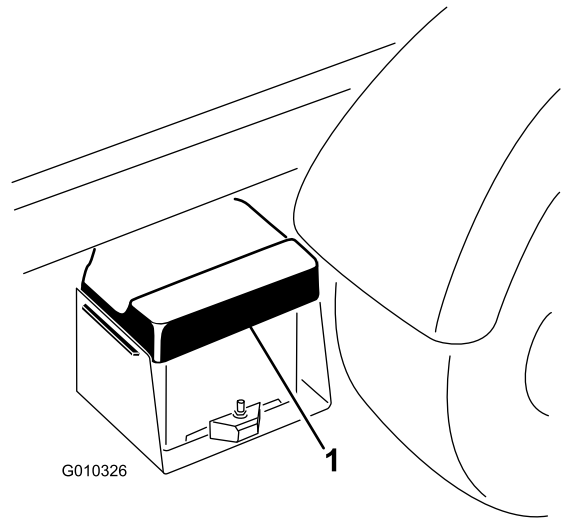

Figure 3
- A. Squeeze the battery cover to release the tabs from the battery base (Figure 3).
- B. Remove the battery cover from the battery base (Figure 3).